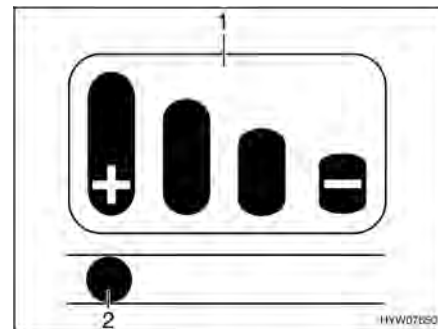

Fig. 100 Wear indicator
A wear indicator (Fig. 100) with a bar diagram (Fig. 100,1) is attached on the coupling handle.
- When the pin (Fig. 100,2) is in the longitudinal hole at the marking with the "+", the friction pads are still in good condition.